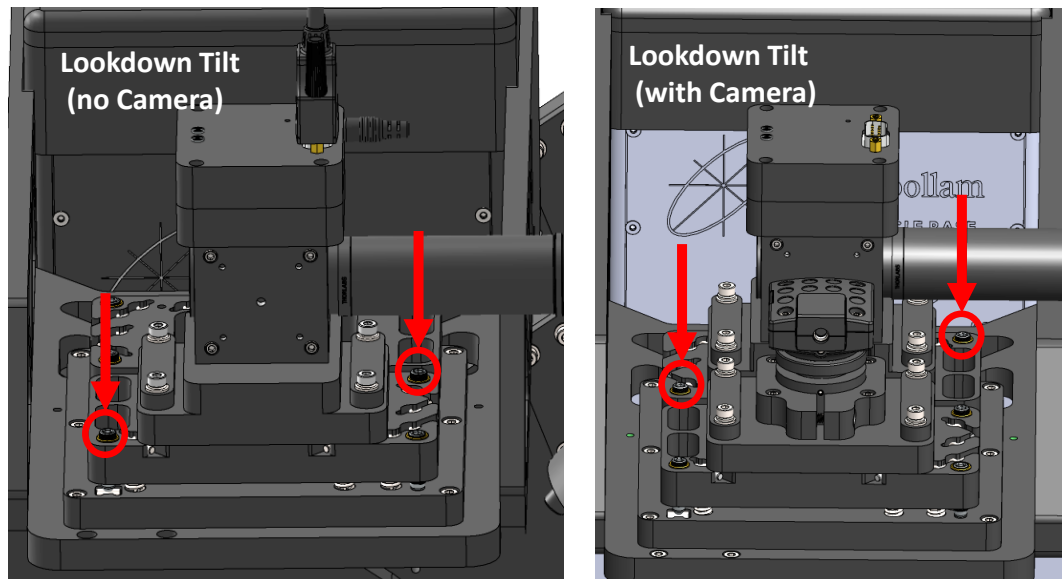

Figure 4-48. Adjusting the Lookdown Detector (Align Unit).
2. The cross hair may not be centered, which shows that the Lookdown Detector needs to be adjusted to match the Sample Stage (which was just aligned in the previous section). Adjust the Lookdown Detector adjustment screws (see Figure 4-48) on the tilt stage that holds the Lookdown Detector to center cross hair on the screen.